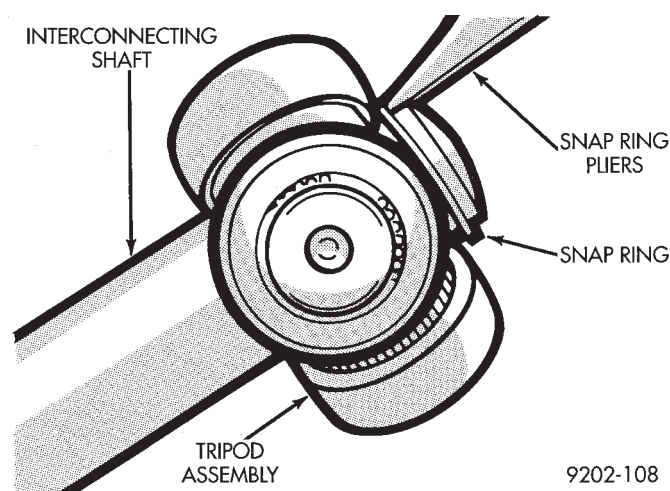

Fig. 18 Outer Tripod Retaining Snap Ring Installation
(3) Install a **NEW** outer tripod assembly to interconnecting shaft retaining snap ring, into the interconnecting shaft snap ring groove (Fig. 18). Be sure that the snap ring is fully seated into the snap ring groove around the entire interconnecting shaft.